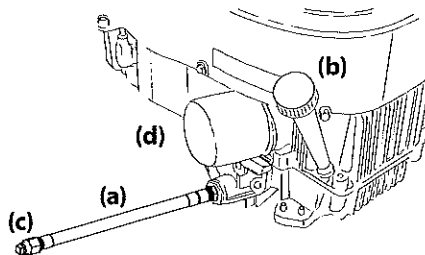

Figure 39
- While holding the free end of the oil drain hose over the oil collection container, unscrew the square head hose plug (c) from the end of the oil drain hose. See Figure 39. Drain the engine oil into the collection container.